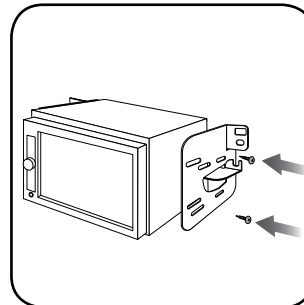

Fig. 2.5
5. Install the metal brackets on to the aftermarket radio. (Fig. 2.5)